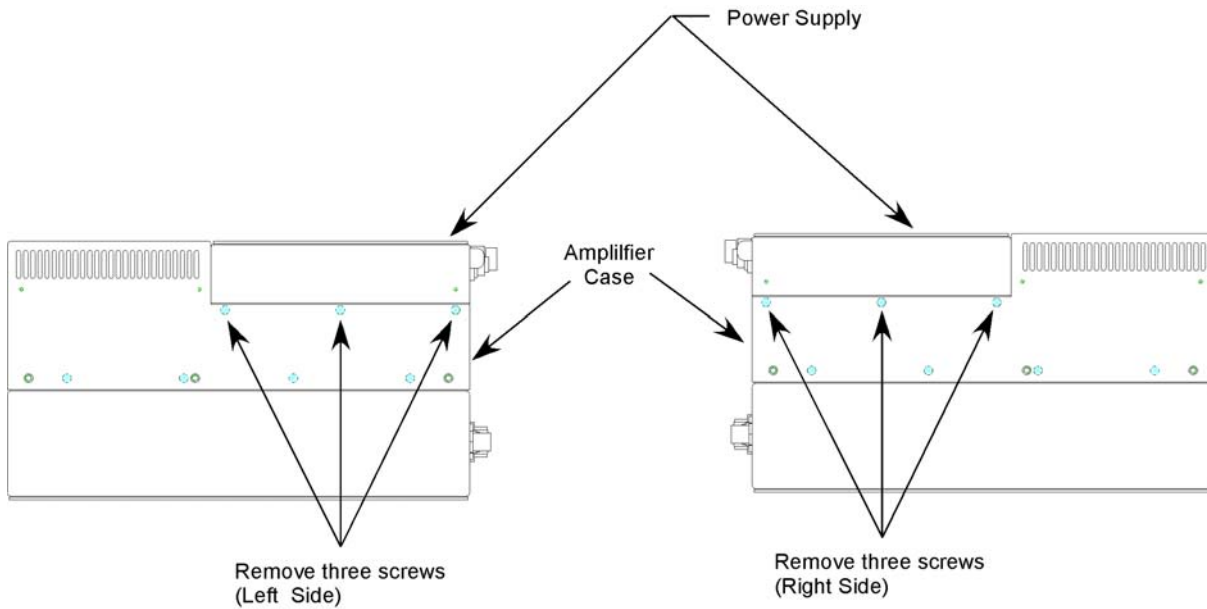

Figure 1, Location of Power Supply Screws
- 2 Refer to Figure 1. Turn the amplifier upside down.